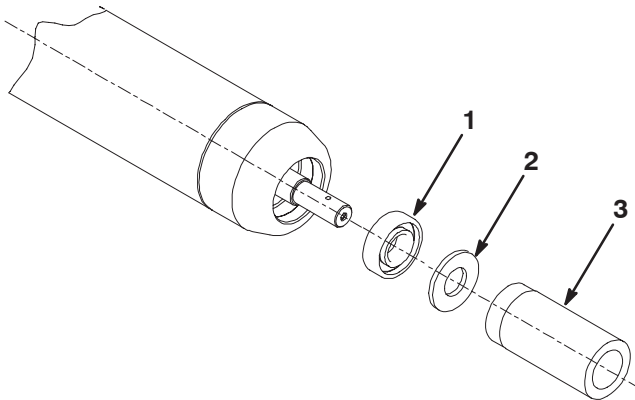

Figure 9
13. Using the Washer and Bearing/Outer Seal Tool, install the second bearing onto the open end of the roller shaft. Lightly tap the bearing until the inner race is seated on the roller shaft (Fig. 9 & 10).